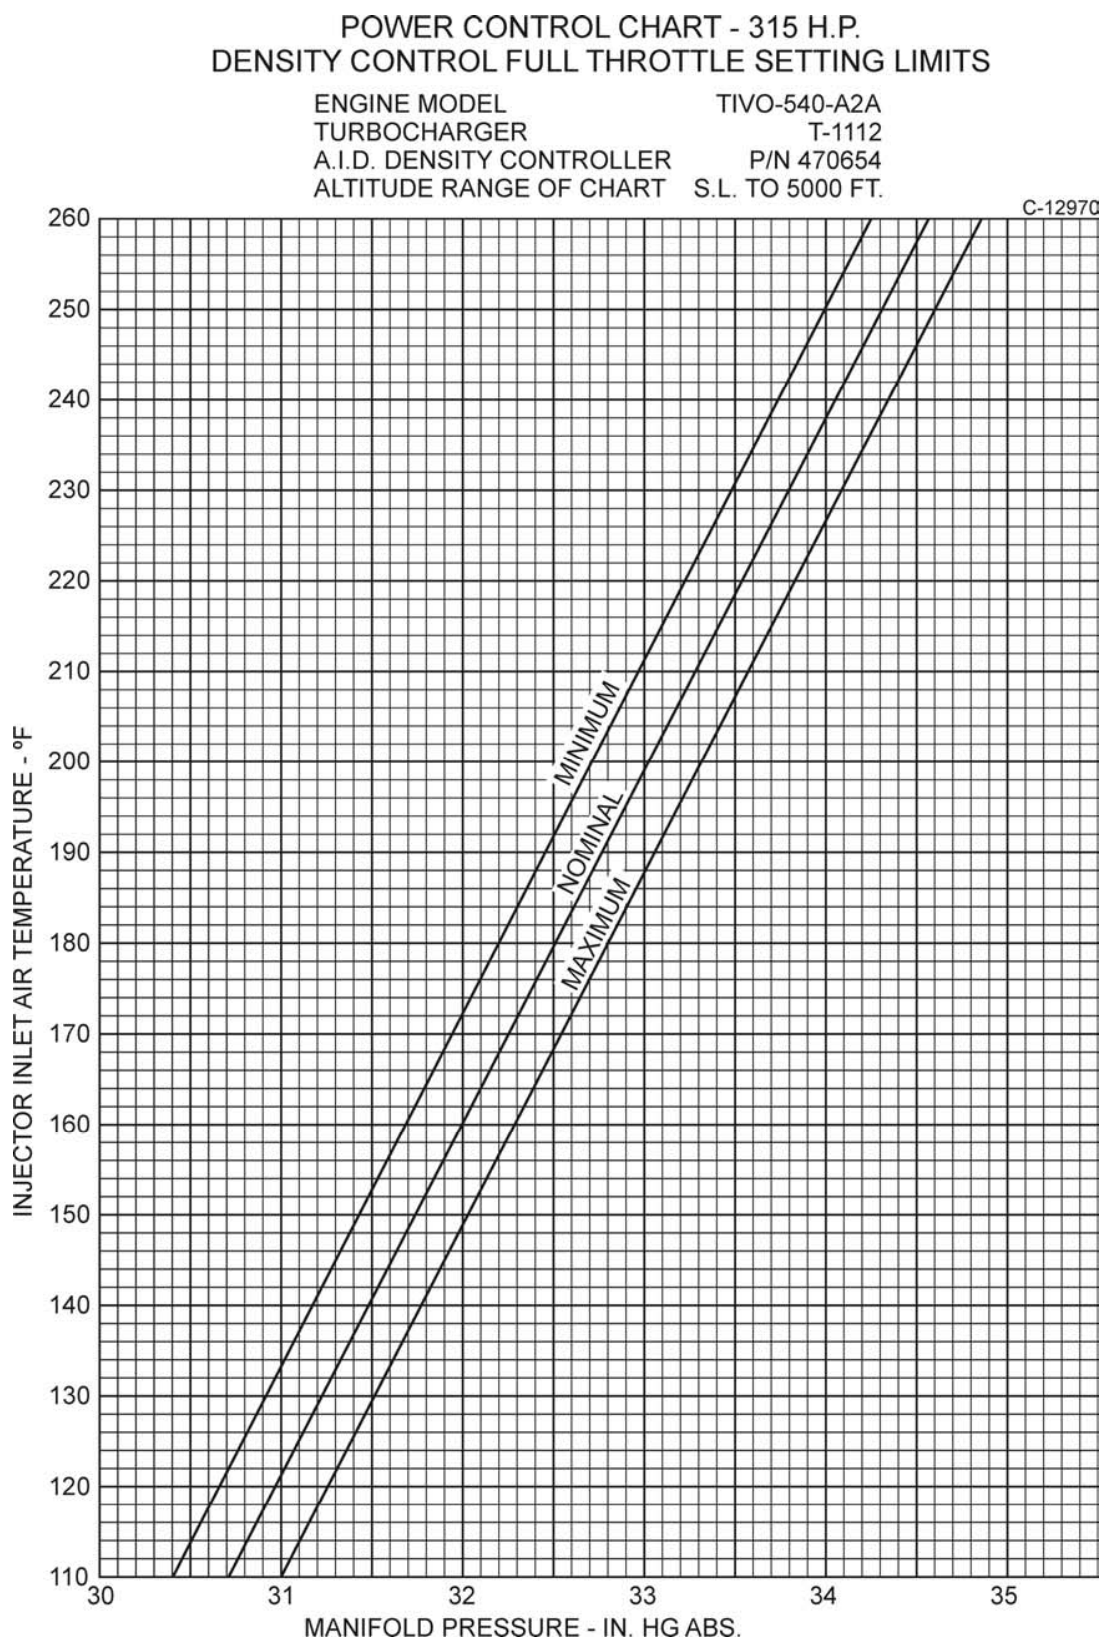

Figure 5-3. Density Control Fuel Throttle Setting Limits
- (1) Install a 100 psi gauge to “Tee” at waste gate actuator.
- (2) With the engine at 3200 RPM and collective set at low pitch, check inlet pressure setting. This setting should be within engine oil pressure limits.
- (3) Increase engine power to a minimum 26 in. to 28 in. MAP for 5 to 10 minutes until the filter air and injector inlet air temperatures stabilize and recheck pressure. If tie down facilities are not available, operate the helicopter in stabilized flight.
- (4) Check injector inlet air temperature and full throttle manifold pressure. Compare reading with curve, Figure 5-3. Results must be within limits of curve. Example: With injector inlet temperature of 50°C (122°F), full throttle manifold pressure should be between 30.7 in. and 31.3 in. hg. If it is found that the manifold pressure is not within limits, the density controller must be reset.
- (5) To adjust the density controller breaker the lockwire and remove hex plug in end of controller unit. Insert a screwdriver and turn counterclockwise to decrease and clockwise to increase the full throttle manifold pressure. The unit is very sensitive and must only be adjusted in small increments. 1/8 turn of the adjustment is equal to approximately 1 in. MAP.